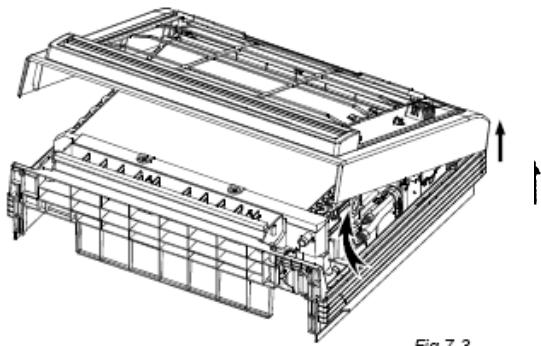

Fig.7-3
- Opening bottom of face plate for a angle that is 30 degrees, then the top of face plate will be take up.(Refer to Fig.7-3)